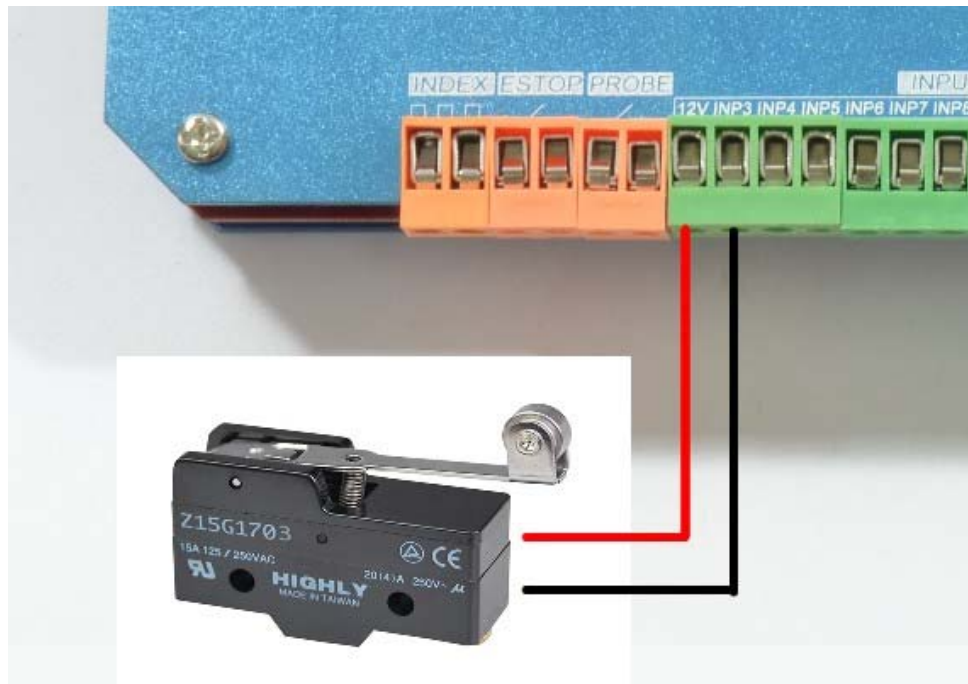

Figure2-8. General input connect to mico switch.
- H)General input port with opticalcoupler. See as Figure 2-8,2-wire micro switch and inductive switch connect method .Connect 12V and INPX